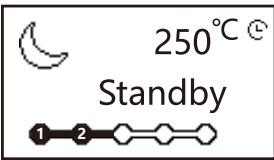

Fig. 6-1
- 3) Standby time is up, it'll auto lower to setting standby temperature (If standby temperature higher than current temperature, then it keeps current temperature in standby mode, as Fig.6-1)